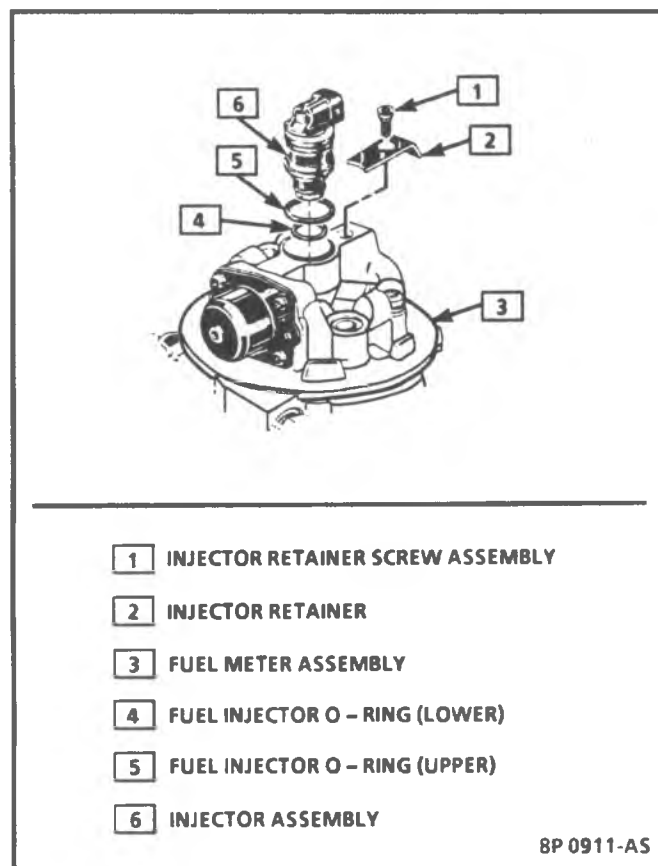

Figure 4-33 - Fuel Injection Parts (TBI 700)
**Figures 4-33 through 4-35**
The fuel injector (see Figure 4-33) is serviced only as a complete assembly.
3. Using a fulcrum, place a screwdriver blade under ridge opposite connector end and carefully pry injector out (see Figure 4-33).